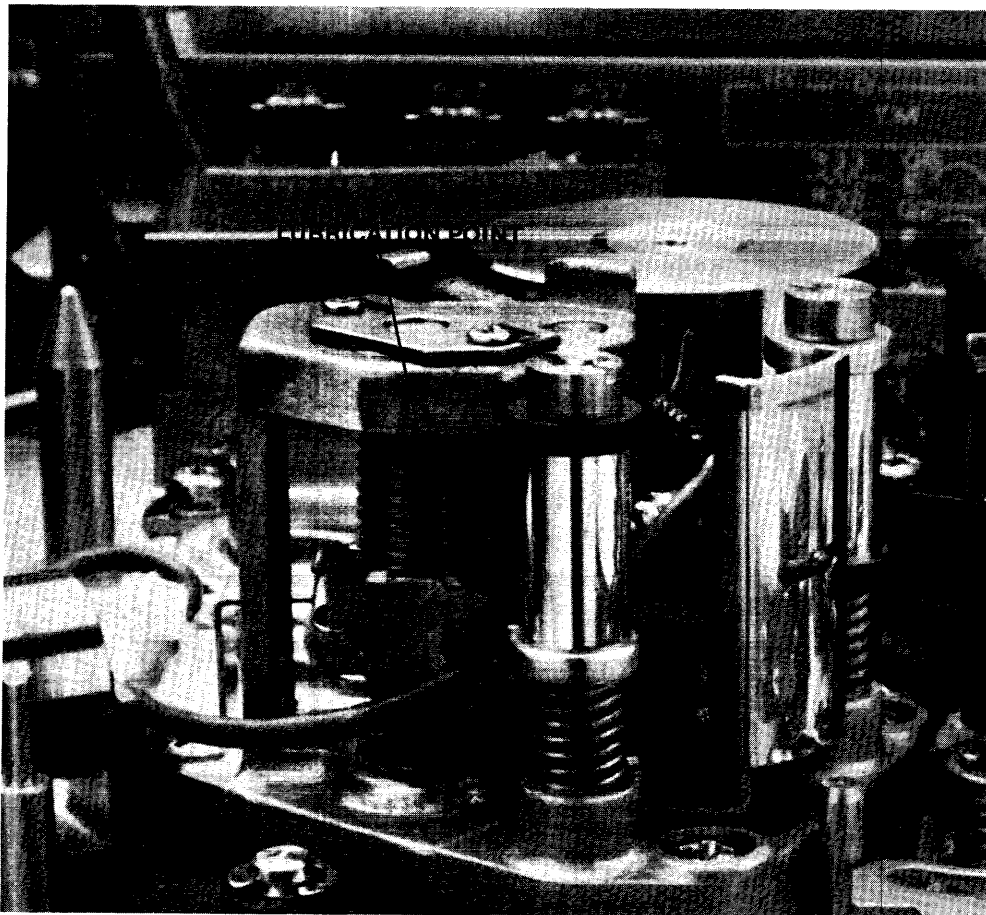

Figure 5-5. Worm Tracking Gear Lubrication
3. Using a brush, apply a small amount of grease to the points indicated in figure 5-5. Note that lifter shaft requires a drop of diamond oil #440 rather than grease. Also apply diamond oil to the lifter's idler gear shaft (located only on the lower right side of the cartridge support assembly).